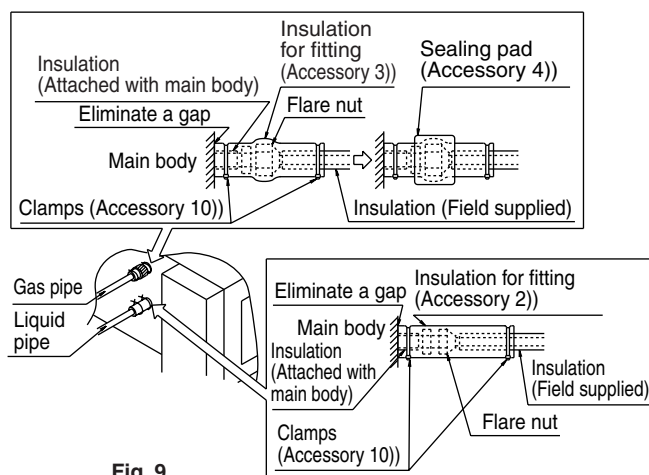

Fig. 9
- After checking the pipe-connection for gas leakage, be sure to insulate the liquid and gas pipe, referring to Fig.9, 10 and the following points.